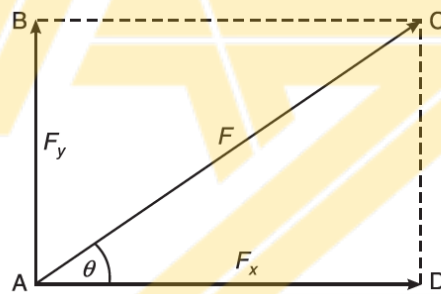

Fig. 1 Resolution of a force
**Resolution of a force :** The process of splitting of a force into its two rectangular components (horizontal and vertical) is known as resolution of the force, as shown in Figure 1. In this figure,  $F$  is the force which makes an angle  $\theta$  with the horizontal axis, and has been resolved into two components, namely  $F_x$  and  $F_y$ , along the  $x$ -axis and  $y$ -axis respectively.